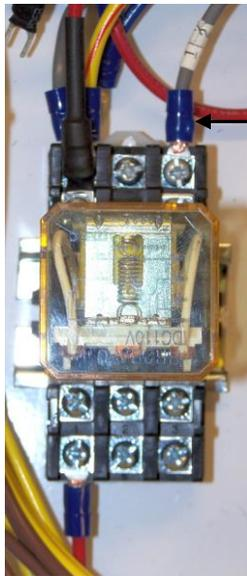
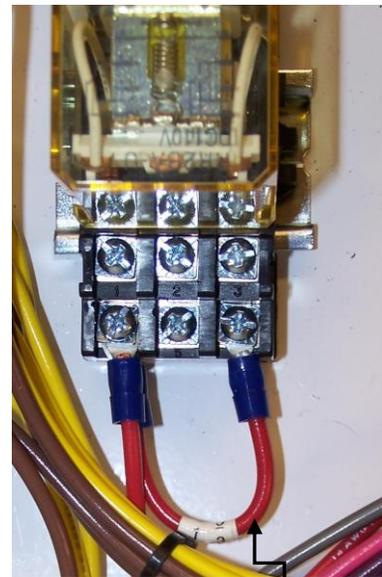

Figure 5
Figure 6
1. Remove the upper and lower blue wires from the Safety Relay (Figure 4) and terminal blocks #6 & #7. Install #12 Gray Wire as shown in Figure 5. Install #13 Red jumper wire as shown in Figure 6.